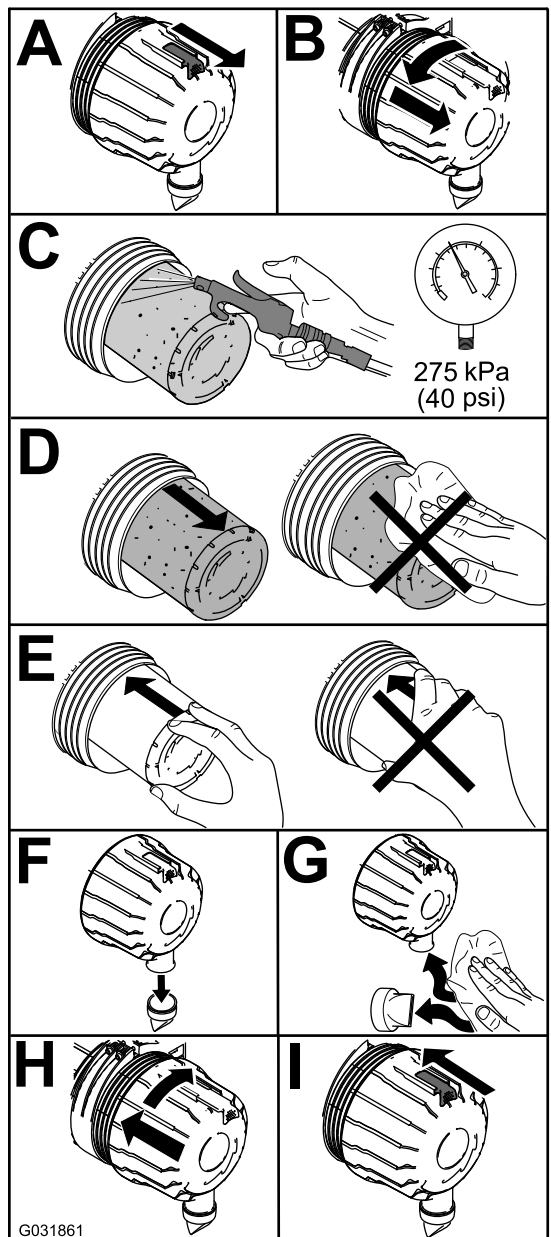

**Figure 88**
Service the air-cleaner filter only when the service indicator requires it (Figure 88). Changing the air filter before it is necessary only increases the chance of dirt entering the engine when you remove the filter.
2. Reset the indicator (Figure 88) if it shows red.